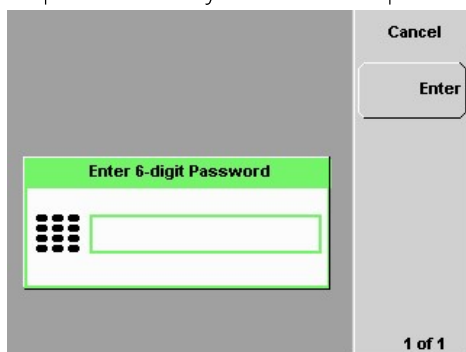

Figure 2-54 Password required to restore display
- 9 Once the screen is blanked, pressing any of the front panel keys will prompt you to enter the password to restore the display (Figure 2-54). You are only allowed up to three attempts of password entry.